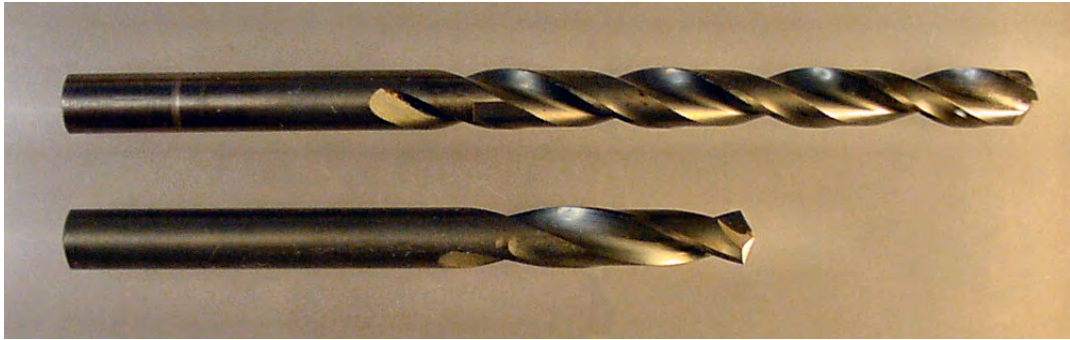

Figure 3-15. Standard-length (jobber-length) drill (top). Machine-screw length drill (bottom)
- **Screw-machine length (also called stubby or short length) is recommended (see Figure 3-15):** Jobber-length drills are longer and are the standard, but a shorter drill has less flex and is less likely to result in angular offset. Also, shorter lengths leave more vertical clearance for the workpiece at the expense of not being able to drill as deeply as jobber drills. Avoid extra-long or extended-length drills for this task.